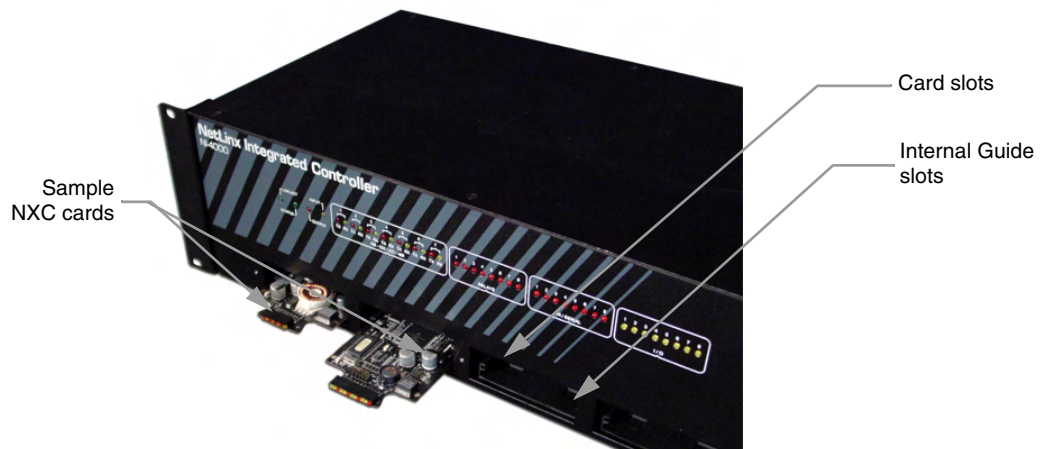

FIG. 8 Sample NXC cards inserted into an NI-4100 unit
3. Align the edges of the card with the internal guide slots and gently slide the card all the way into the slot (FIG. 8).
The finished product is an upgraded NI-X100 Controller with **1** new ICSHub and **2** new ICSNet ports available at the rear of the unit (FIG. 8).